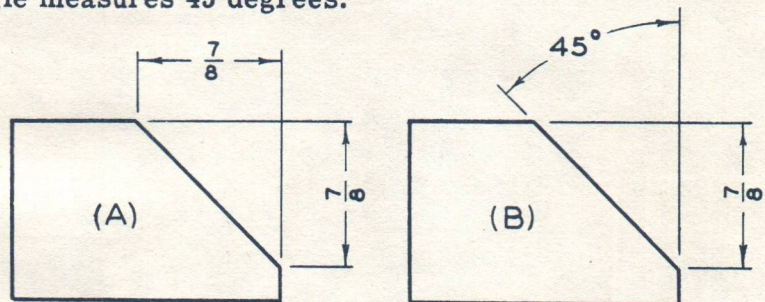

FIG. 52 METHODS OF DIMENSIONING ANGLES
Two common methods of dimensioning angles are (1) in terms of linear dimensions and (2) angular measure as illustrated at (A) and (B) in Figure 52.